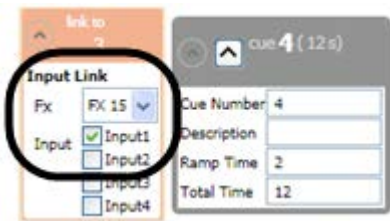

Figure 164
3. The new link will appear in the left margin of the **Cue Grid**. Select the Stagehand FX and the input that should trigger the **Child Cue** (Figure 164).